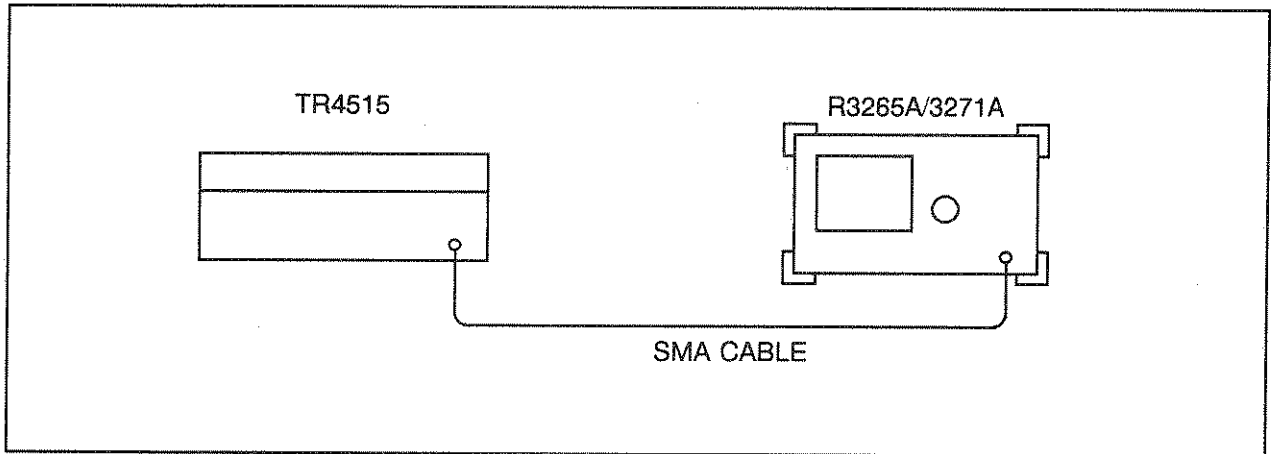

Figure 5-10 YTO Adjustment Setup
(1) Connect the equipment as illustrated in Figure 5-10.
(2) Press the **INSTR PRESET** key on the TR4515 and set the controls as follows: